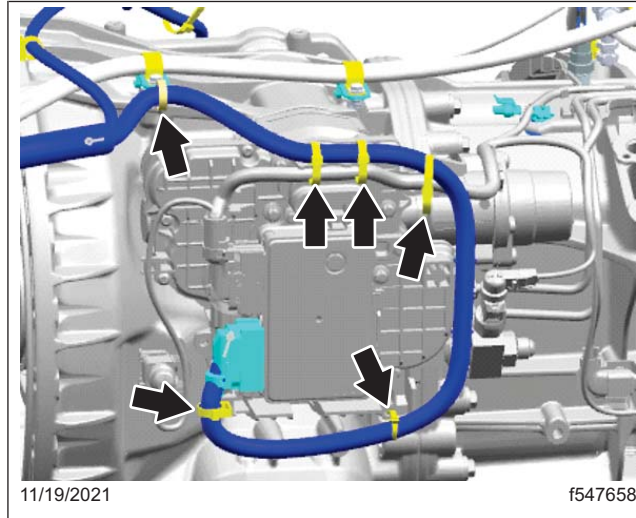

Fig. 2, Tie Straps in Original DT12 Transmission Harness Routing
4. Remove the six clipping points that attach the transmission leg of the chassis harness, from the Y near the bell housing to the TCM connector, as shown in Fig. 2. If harness repair is needed, refer to **SB 54-290** for detailed instructions.